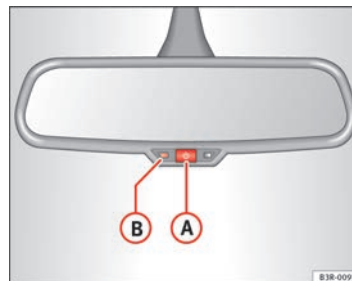

Fig. 101 Interior mirror with anti-dazzle setting: Indicator lamp and on/off switch ▶
- Press button **A** ⇒ Fig. 101. Indicator lamp **B** goes off.
- Press button **A** ⇒ Fig. 101. Indicator lamp **B** turns on.